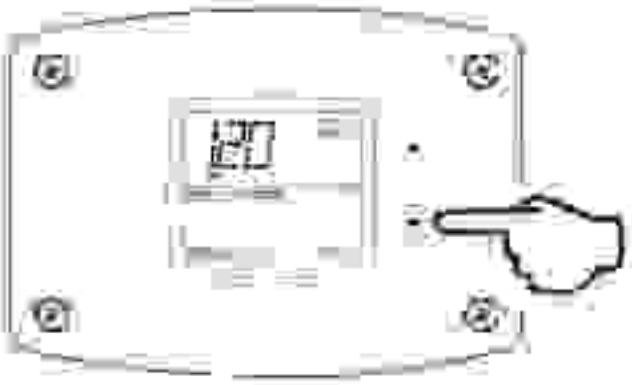

Fig 48
3. Press 'UP' or 'DOWN' buttons to change the maximum setpoint value. This will limit the maximum setpoint the user can select. Note: The maximum setpoint is approximately 180°F (Fig. 48).